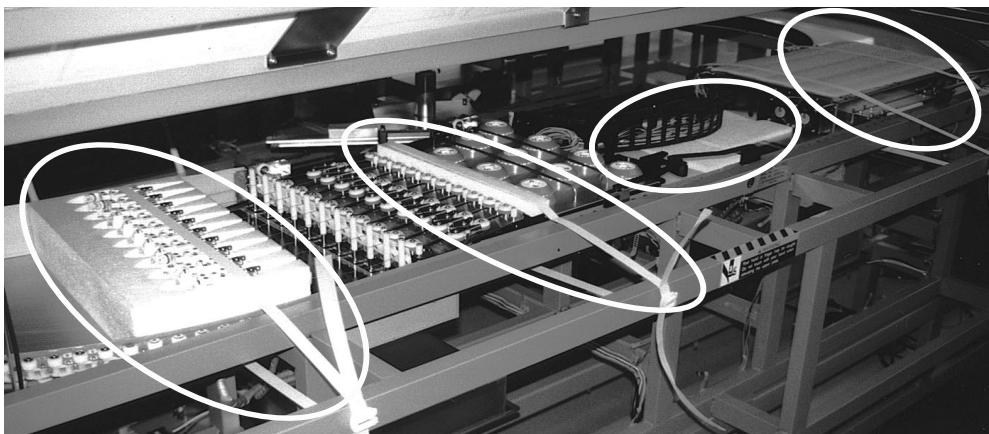

Fig. 10
9. While paying attention so that any part is not damaged, remove the packing material. Refer to Fig. 10